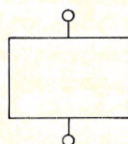

Fig. 2.
**Simple Sequence.** A simple sequence is one which performs a single function, operation or process. It makes no decisions. The flow of control is not relinquished within the operation. Control is given to the process and *must* return from the process. Mathematically it is linear reasoning. Symbolically, we represent this sequence as shown in Fig. 2.